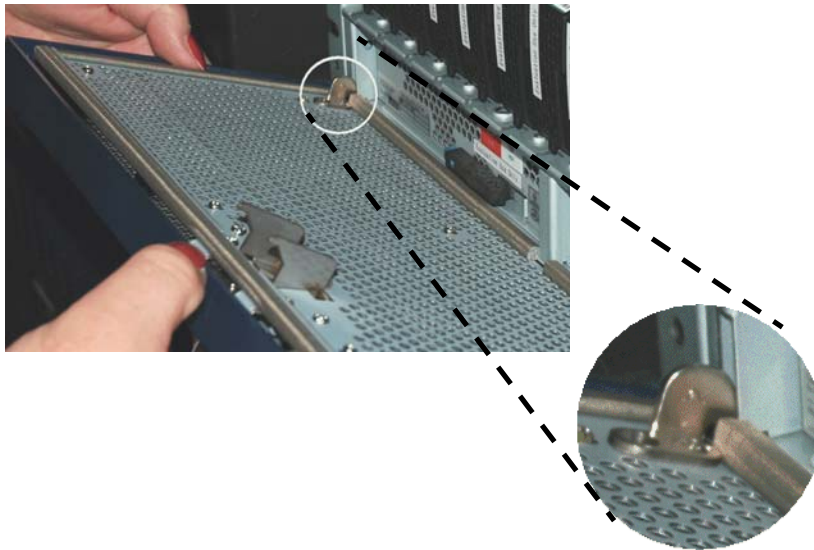

Figure 4-1: Removing the Front Bezel
3. Engage the two hooks at the bottom of the front bezel into the slots on the array chassis, as shown in Figure 4-1.